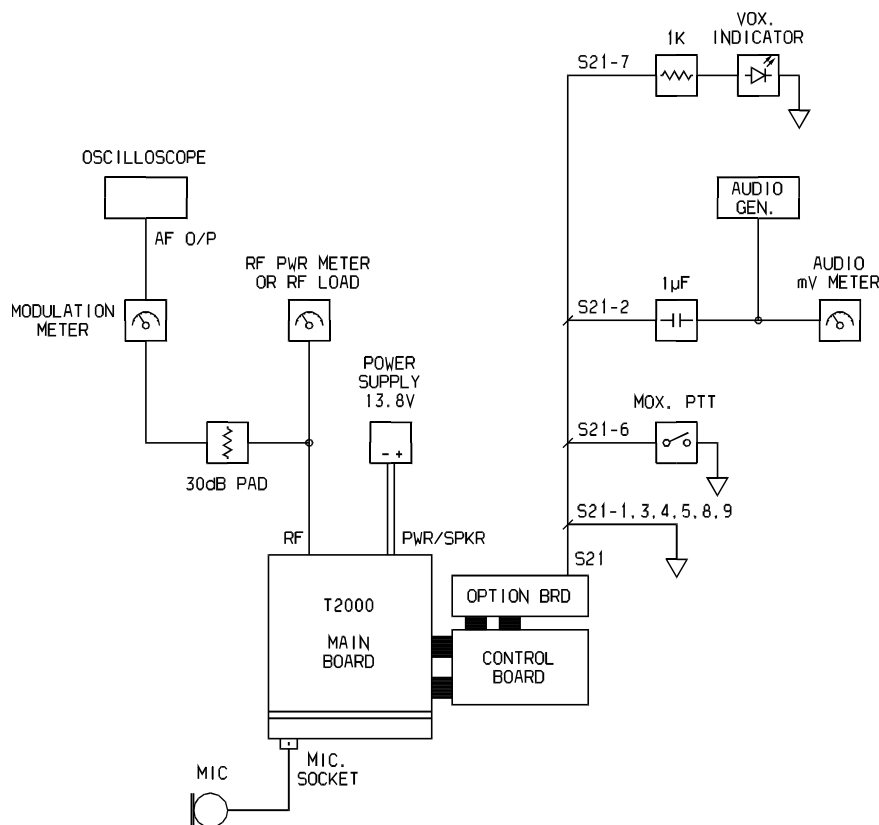

Figure 8.11.2 Test Equipment Set-Up
- 1 Set up the equipment as shown in Figure 8.11.2, and set the audio generator to 1kHz at a level of 0.8mV.